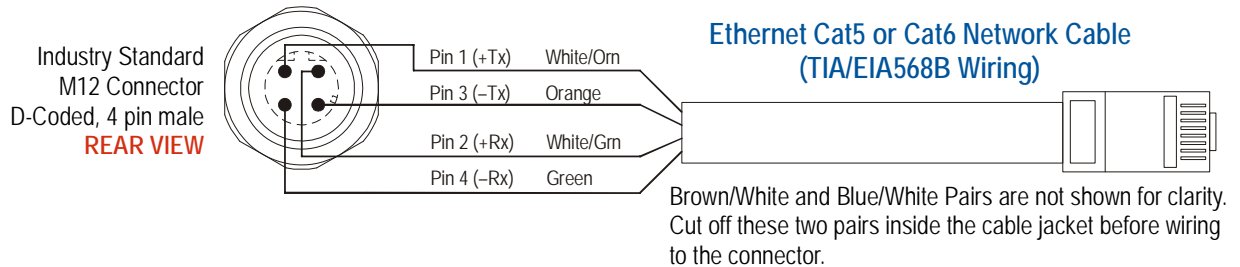

Figure 3.2 Sample Programming Cable
**NOTE** Figure 3.2 above shows the proper wiring for a cable that is terminated on the RJ45 connector to the TIA/EIA568B standard. The only difference between the 568A and 568B standards is that the two pairs are swapped. With the “auto-switch” port that is built into the NR60, the system will work correctly, regardless of which standard was used to terminate the RJ45 plug.